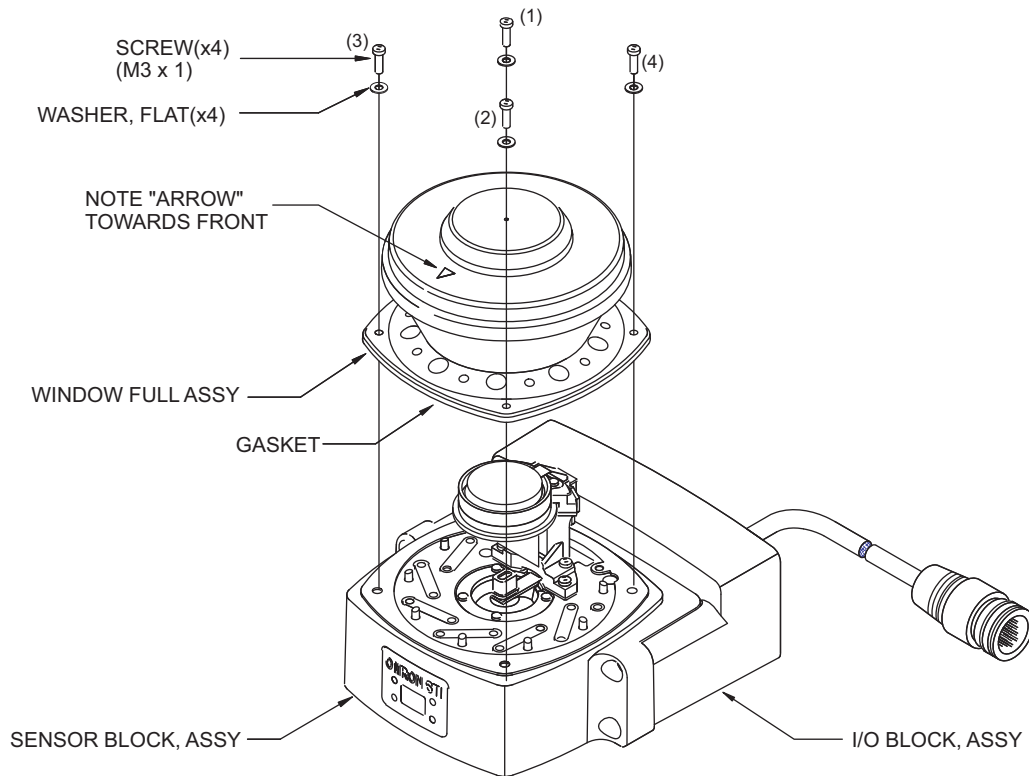

Fig. 7-6 Window Replacement
7. While applying even pressure to the top of the window, evenly tighten the four screws with flat washers in an alternating pattern ( Fig. 7-6). It is recommended that the screws be tightened to a torque of 0.56 N•m (5.0 lb-in).